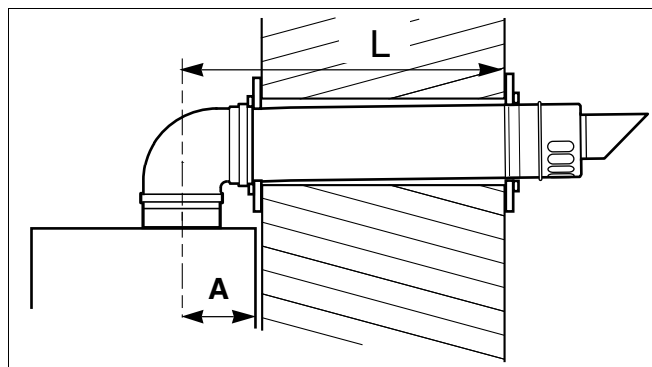

fig. 21 Flue length - rear
- Measure the flue length L. Refer to figures 21 and 22.